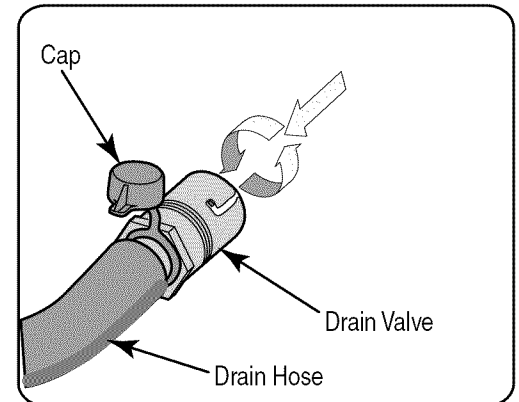

Figure 17
- Push the drain valve in slightly and turn counterclockwise until it stop, then pull the valve fully outward to open the valve and drain the oil. See Figure 17.